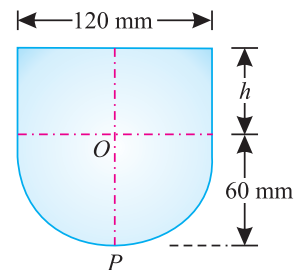

Fig. 6.20.
**Solution.** As the body is symmetrical about the vertical axis, therefore its centre of gravity will lie on this axis. Now let the vertical axis cut the plane joining the two sections at  $O$  as shown in Fig. 6.20. Therefore centre of gravity of the section is at a distance of 60 mm from  $P$  i.e., bottom of the hemisphere.